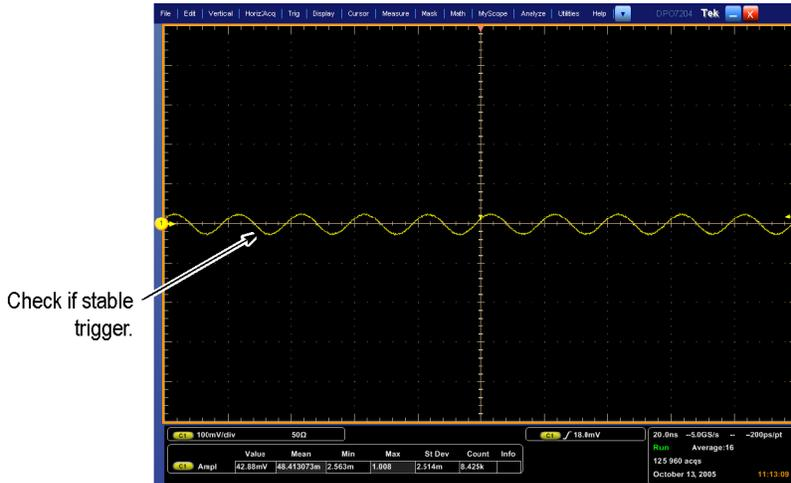

Figure 34: Measurement of trigger sensitivity - 50 MHz results shown
- CHECK that a stable trigger is obtained for the test waveform for both the positive and negative slopes of the waveform. Use the **Trigger Level** knob to stabilize the A trigger. Touch **Level** and use the keypad or the multipurpose knob/Fine button to stabilize the B trigger. Touch one of the Slope buttons to switch between trigger slopes. (See Figure 34 on page 313.)